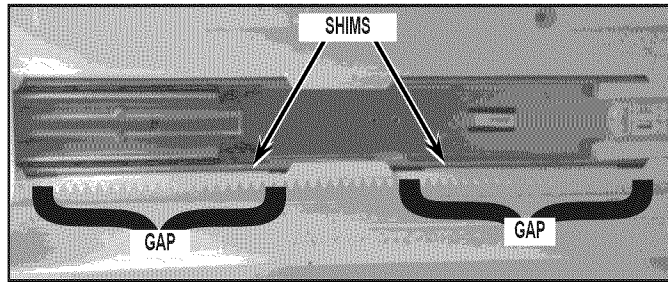

FIGURE 1
**IMPORTANT:** Shim location after installation - There should be 1 shim in each available gap, 2 per side, moderately centered. See *Figure 1*.